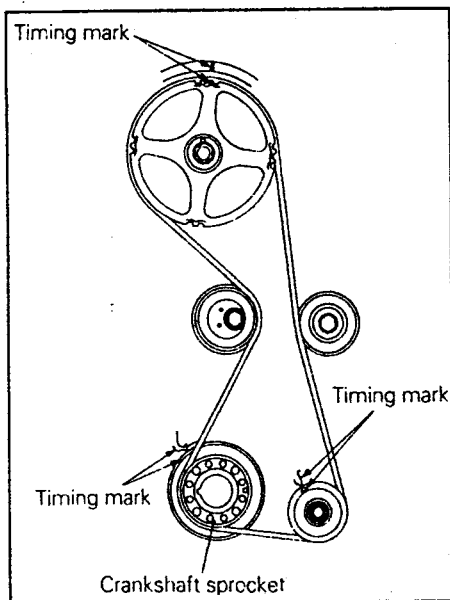

Fig. 158. — Align the timing marks as shown before the timing belt is fitted in the given order over the various gearwheels and rollers.
- The belt should be installed first under the tensioner pulley, then over the crankshaft timing wheel, then over the oil pump drive wheel and under the idler pulley and finally over the camshaft timing wheel. Before fitting the belt, check once more that all timing marks are still in line. Check with Fig. 158 to make absolutely sure. Take care that the belt is not slackened during installation.
- Slacken the tensioner mounting bolt and slowly rotate the tensioner roller (L.H. side, Fig. 158) slowly in clockwise direction until all slack has been removed from the timing belt and temporarily tighten the roller securing bolt to keep roller and belt in position.